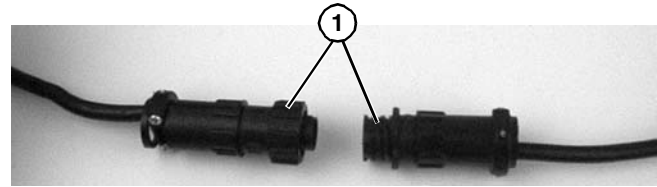

Figure 28
1. For DC variable speed motor, unplug motor cord at disconnect (Figure 28, item 1).